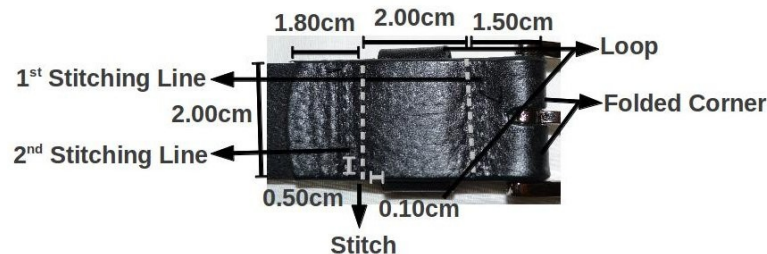

Figure 6. Stitching Lines (Inside View)
- 1.50 cm between the second stitching line and the folded corner (see Figure 6).